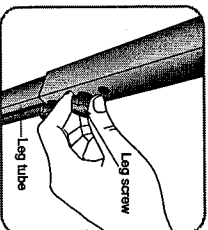

Figure 18
3. Unfasten the locknut on legs and pull out the tubes and leave some hole for M8 x 90 mm locknut and fasten it (Figure 18 - 20).